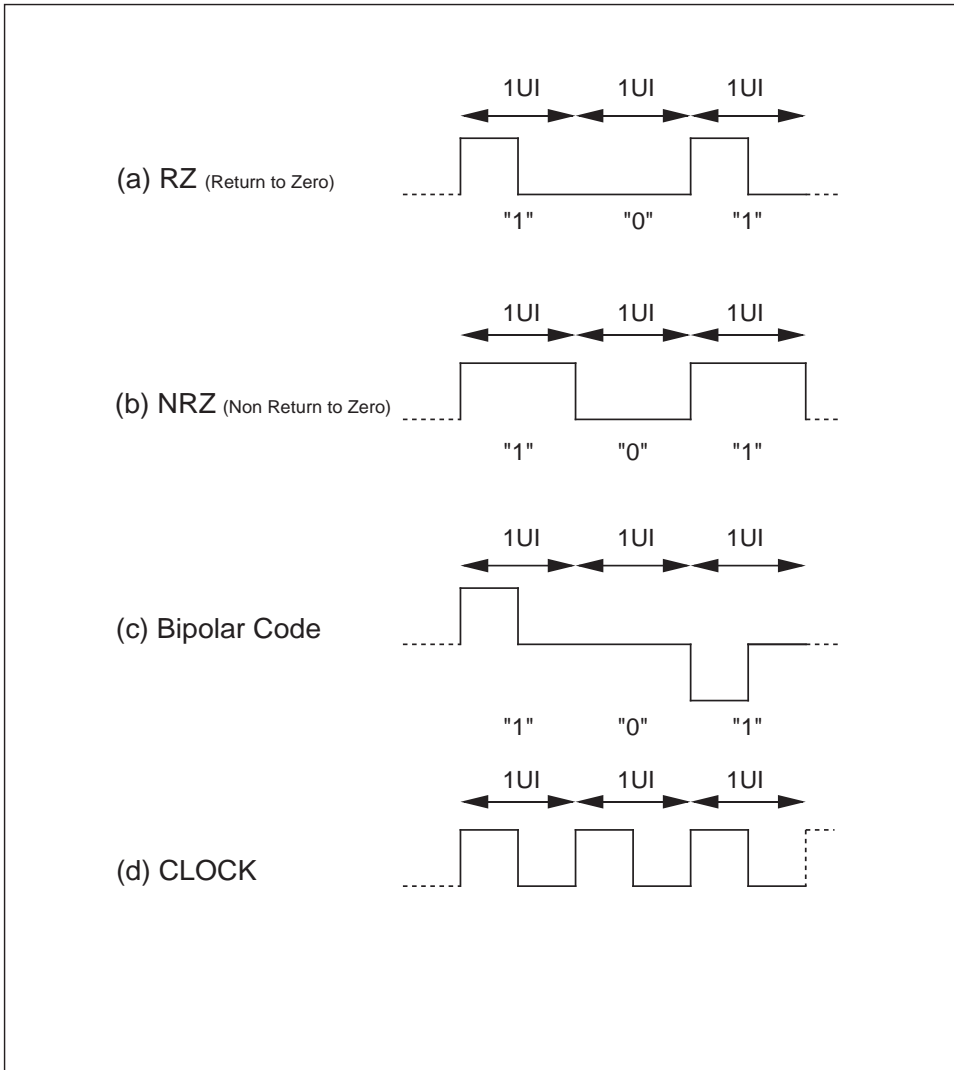
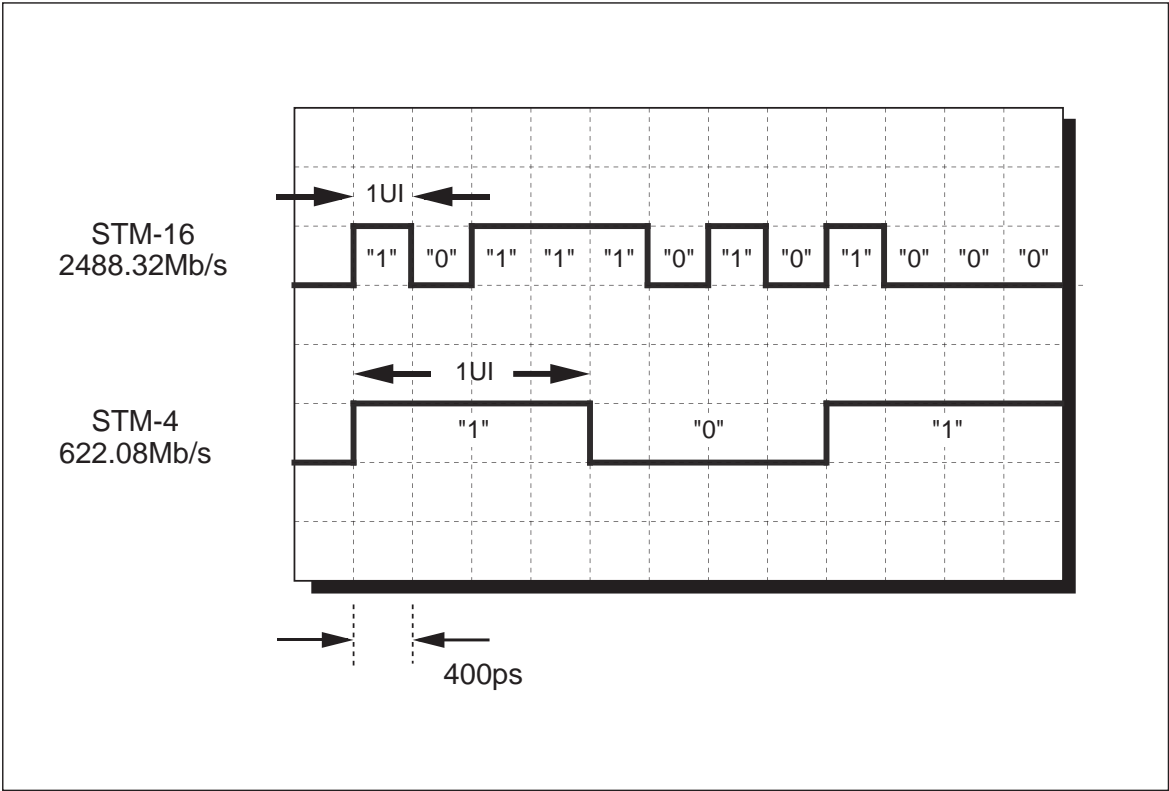

Figure 1-4 Jitter Unit (1)
Figure 1-5 Jitter Unit (2)
Because jitter is the phase variation and its amount is an evaluation parameter for digital signal transmission quality, common units must be defined for all transmission codes. For this reason, "Unit Interval (UI)" is used as the unit for jitter amplitude, and 1 UI is defined as 1 cycle of the clock (Refer to Figure 1-4). The actual units consist of two types,  $UI_{pp}$  (phase variation width peak-to-peak) and  $UI_{rms}$  (phase variation width root mean square). Because these units are normalized parameters that do not rely on the bit rate, the jitter amplitude among different bit rates can be compared. (Refer to Figure 1-5)